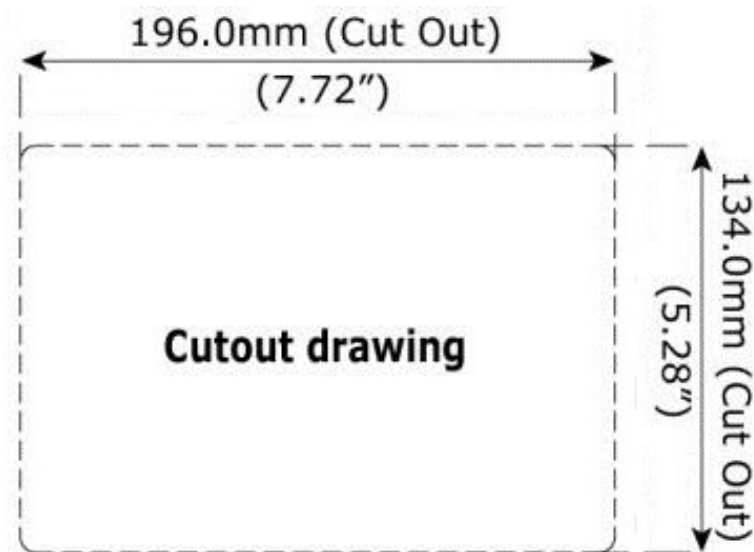

Figure 3. ModCon75 Touch Controller Panel Cut-out—Front View
- See Figure 3 for cutout dimensions.